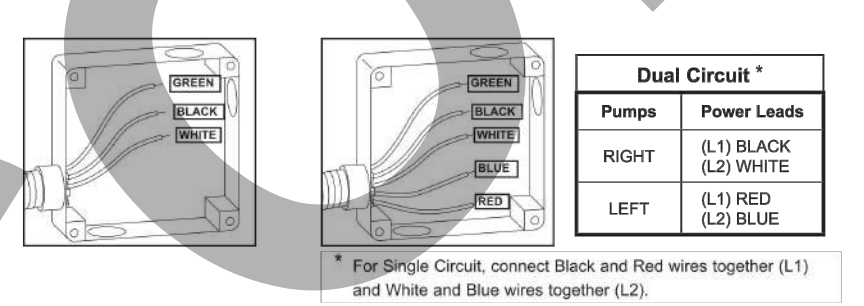

Figure 10: VacStar Electrical Box Connection
- VacStar 20, 50, 50H, 80, 80H must be wired directly from an electrical box that complies with local electrical codes to the VacStar's Electrical Connection Box. See Figure 10.